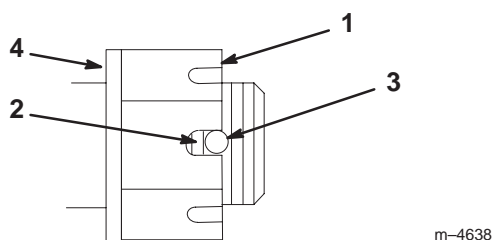

Figure 60
4. Torque the slotted nut to 125 ft.-lb. (170 N·m) (Fig. 60).
5. Check the distance from the bottom of the slot in the nut to the inside edge of the hole. Two threads or less should be showing (Fig. 60).
6. If more than two threads are showing, remove the nut and install the washer between the hub and nut (Fig. 60).
7. Torque the slotted nut to 125 ft-lb (170 N·m) (Fig. 60).
8. Tighten the nut until the next set of slots line up with the hole in the shaft (Fig. 60).